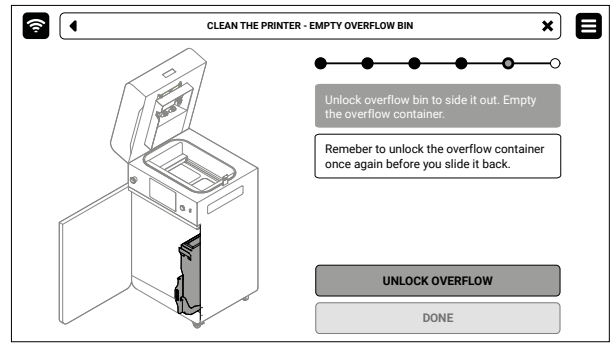

Fig. 9.5 Remember! Unlock Overflow container on the screen before sliding out.
2. Press the **UNLOCK OVERFLOW** button to release the electrolock (fig. 9.5).